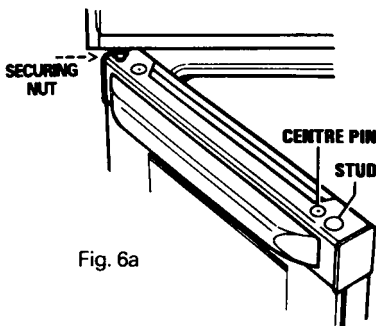

Fig. 6a
5. Replace top door securing nut (see Fig. 6a).
7. Remove what has now become the top door securing nut (see Fig. 6a).
11. Remove stud from top right hand of door (see Fig. 6a).